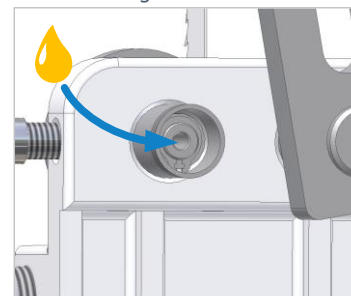

Figure 50: Oil back roller
- Unscrew the sealing cap from the back roller bearing (⇒ Figure 50).